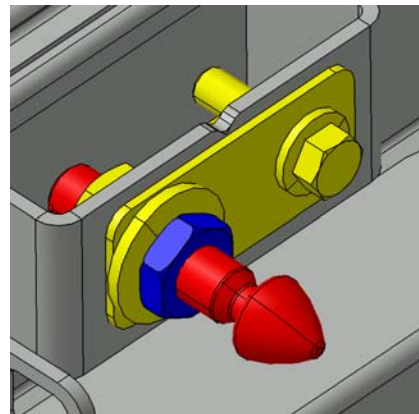

FIGURE 58
- Use the pin to adjust the door so it is even with the adjacent steel sheet. Screw or unscrew the pin as required and then apply final tightening to the jam nut (FIGURE 58).